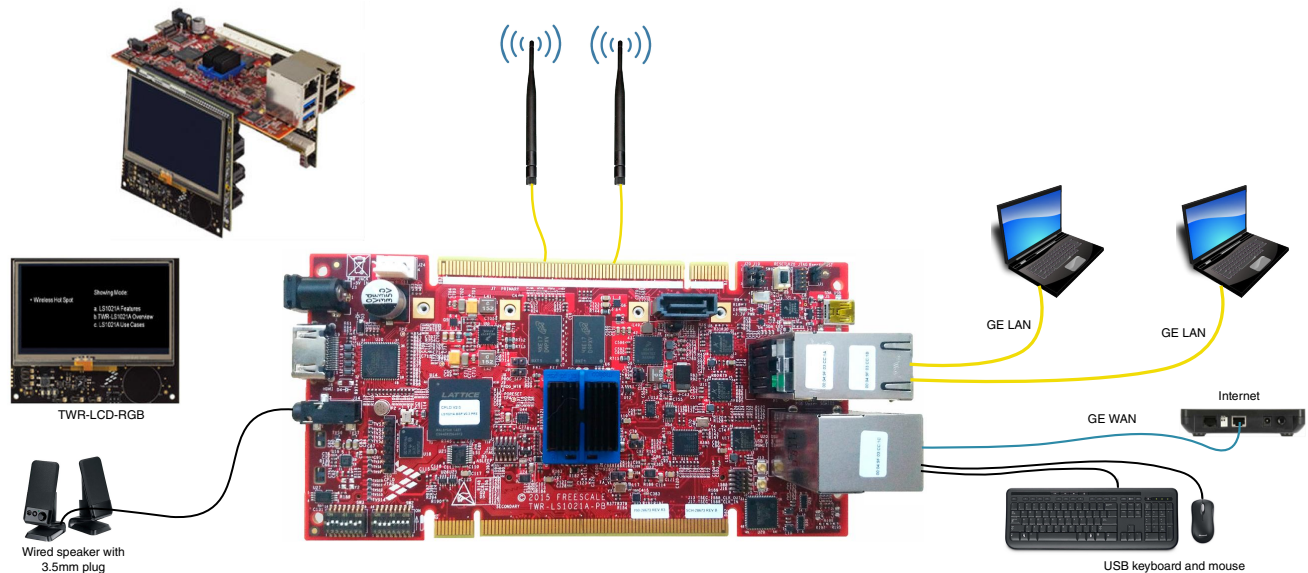

Figure 5. Hardware configuration using TWR-LCD-RGB
- If you want to use the TWR-RGB-LCD, plug it into the secondary TWR-EVEL. For an illustration of the same, see Figure 5 below.